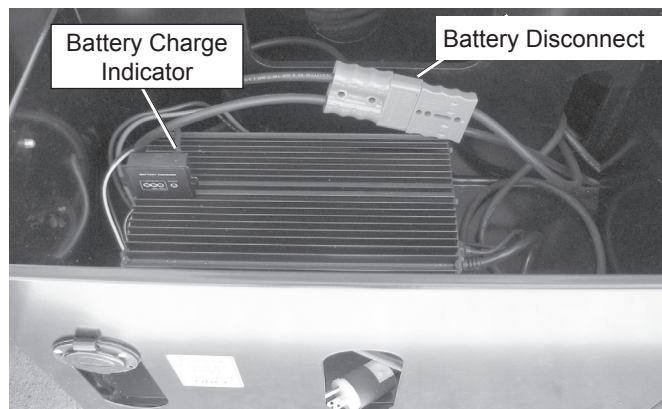

Figure 2.3 – Electrical Compartment
1. Make sure the battery disconnect inside the electrical compartment is plugged in (refer to Figure 2.3).
6. Visually inspect the battery charge indicator (refer to Figure 2.3).